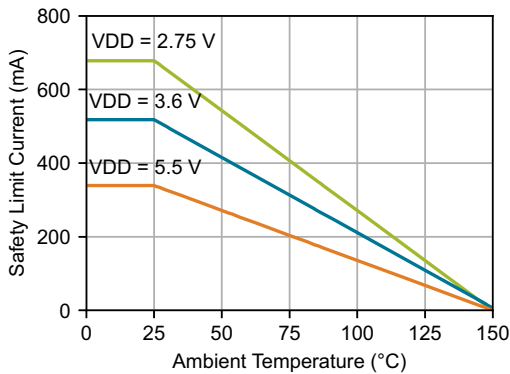
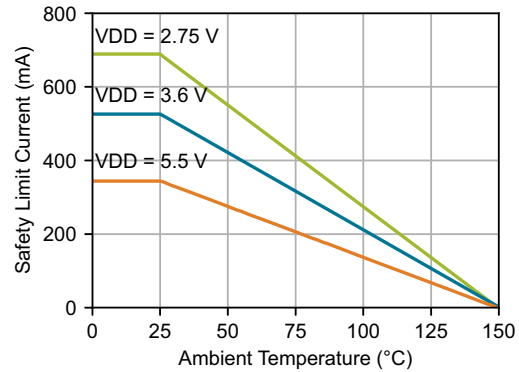
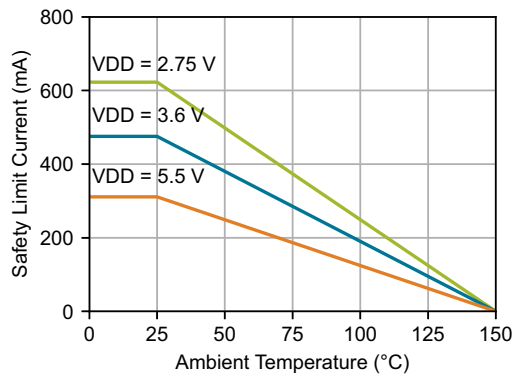

Figure 20. (NB SOIC-16) Thermal Derating Curve, Dependence of Safety Limiting Current
Figure 21. (WB SOIC-16) Thermal Derating Curve, Dependence of Safety Limiting Current
Figure 22. (QSOP-16) Thermal Derating Curve, Dependence of Safety Limiting Current
1. Maximum value allowed in the event of a failure; also see the thermal derating curves in Figure 20, Figure 21, and Figure 22.